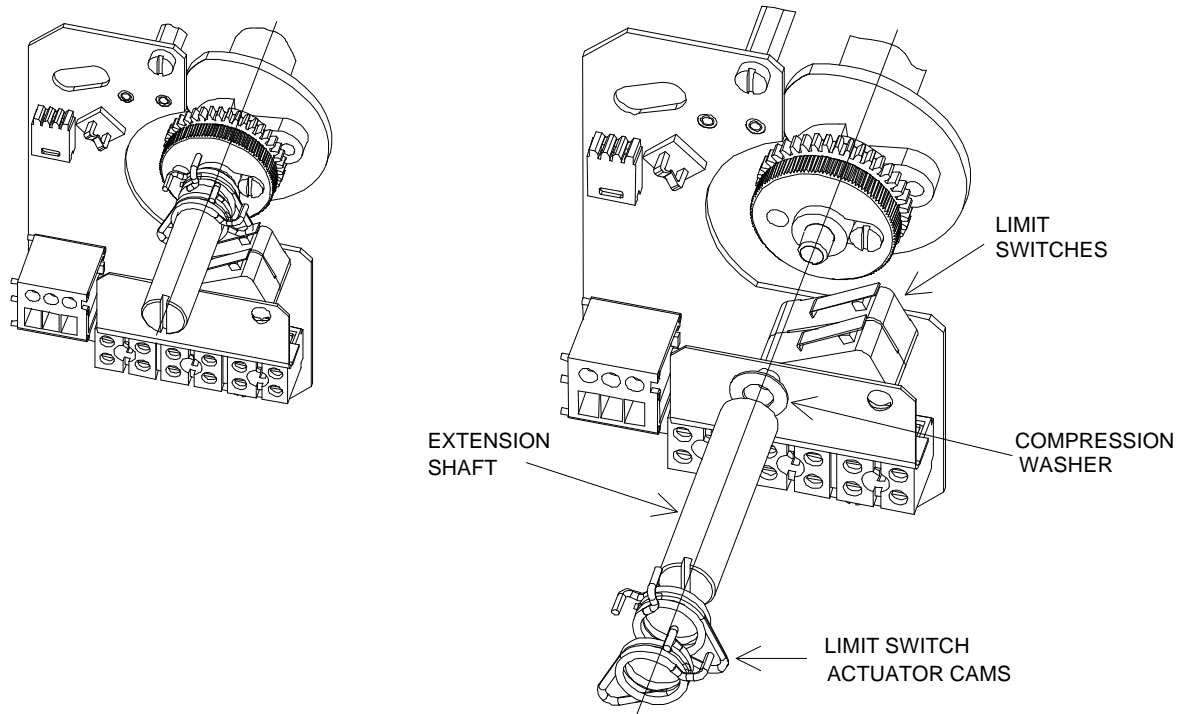

FIGURE 4-2 Mechanical Limit Switches
2. Remove beacon indicator and extension shaft if installed (refer to Figure 4-2)
Refer to the Figure 4-2 and place the compression washer onto the 1/4-20 threads of the input shaft. Then install and tighten the extension shaft until the compression washer is completely flat. Approx. 15 in-lb.
Spread the limit switch actuator cams by pinching the two tabs and slide them onto the extension shaft, one on top of the other as illustrated in Figure 4-2.